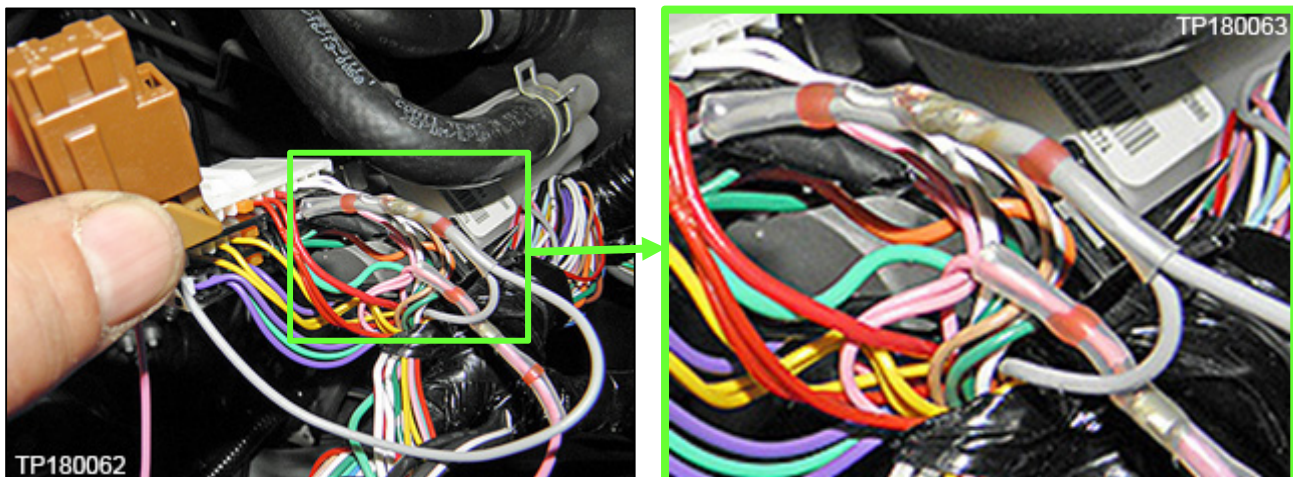

Figure 43
- Figure 43 shown with three way solder connections completed.